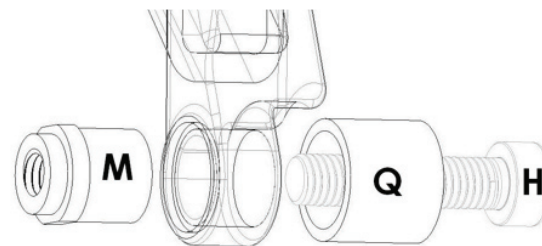

Fig. 6
- B) Orient the tools as seen in Fig. 6.
- C) As you tighten the bolt the DU Press (M) pushes the DU Bushing into the DU Receiver (Q). Repeat for both Left and Right dropouts.